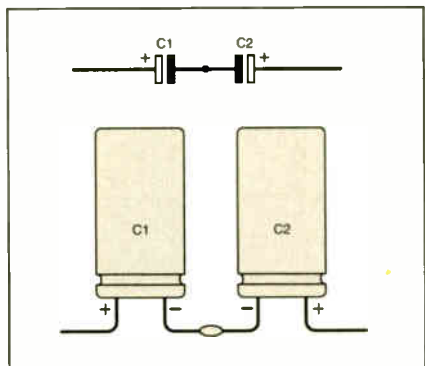

Fig.5. Creating a bipolar electrolytic from two capacitors.
The bipolar electrolytic capacitors used in crossover networks are available in a limited range of values. Capacitors of this kind can be formed by connecting two ordinary electrolytics back-to-back, and this makes possible the production of non-standard values. The details are given in Fig.5. Capacitors rated at 50V working
- C1 10µ bipolar radial elect. 50V (Alternatively, two 22µ standard elect. connected back-to-back – see text and Fig.5)